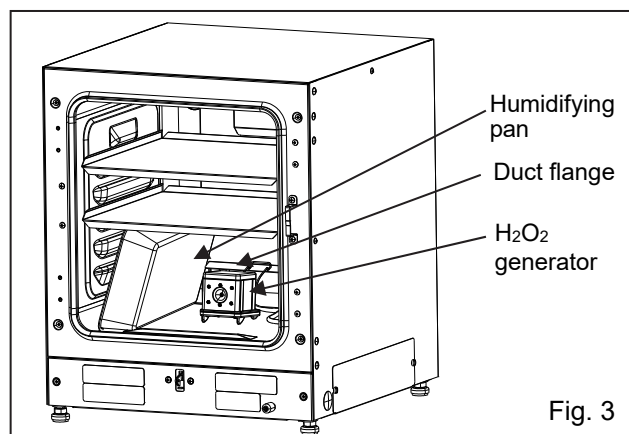

Fig. 3
[Fig. 3]
4. On the Date & Time screen, move the cursor to Time [Fig. 3] using the up/down keys ($\Delta \nabla$), and press the enter key (ENTER).
<Left side of the display> [Fig. 3]
4. With the cursor in the Keypad Click Set screen on Keypad Click Set [Fig. 3], press the enter key (ENTER).
8. Set the humidifying pan removed in step 1 by leaning it against the flange of the duct. Set the trays on the first and third tray catches from the top (Fig. 3).